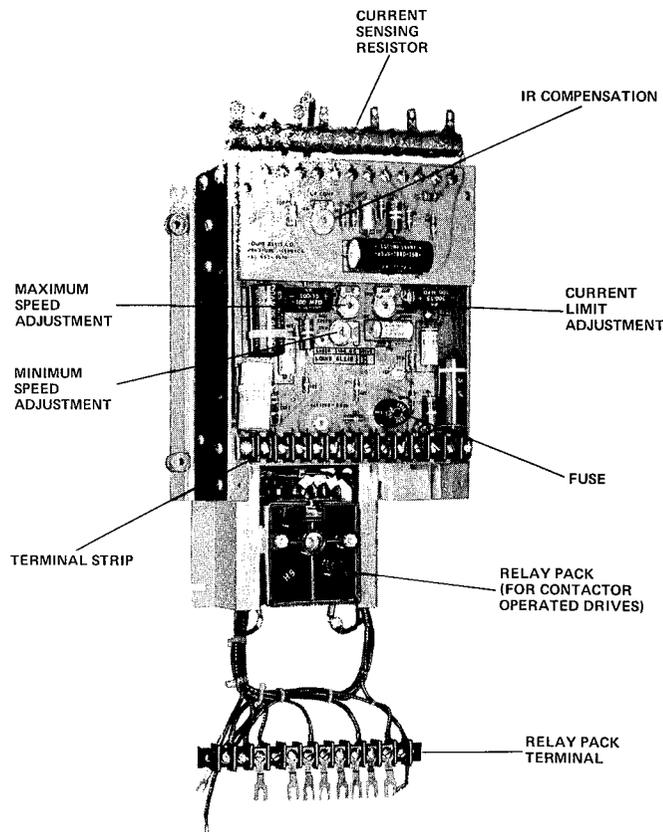

FIGURE 18 COMPONENT LOCATION
**5.2.1 Component Location** - Location of all major components is shown in figure 18.